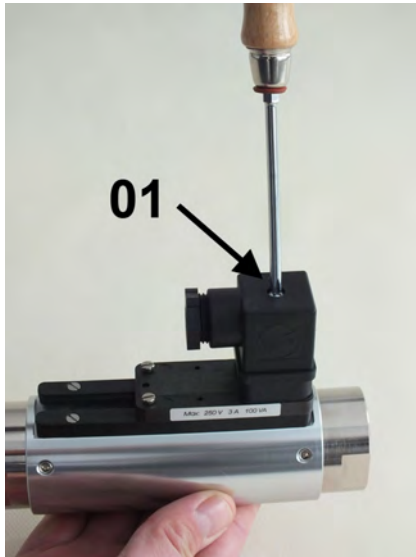

Fig. 54: Loosen female socket
1. ➤ Loosen the fixing screw of the female socket (Fig. 54/1) with a flat-bladed screwdriver.